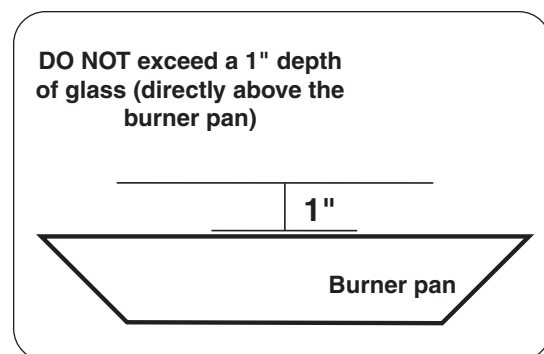

Fig. 20-2 Proper media placement
- DO NOT exceed a 1" depth of glass (directly above the burner pan) as shown in Fig. 20-2. Any additional glass/gems above the burner may cause unsafe operation.